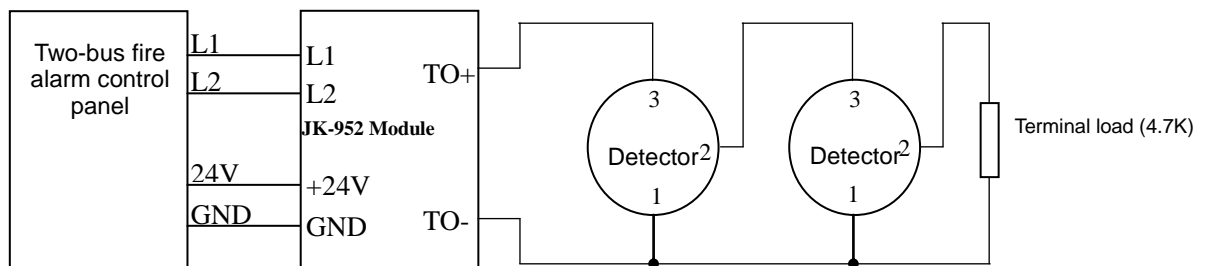
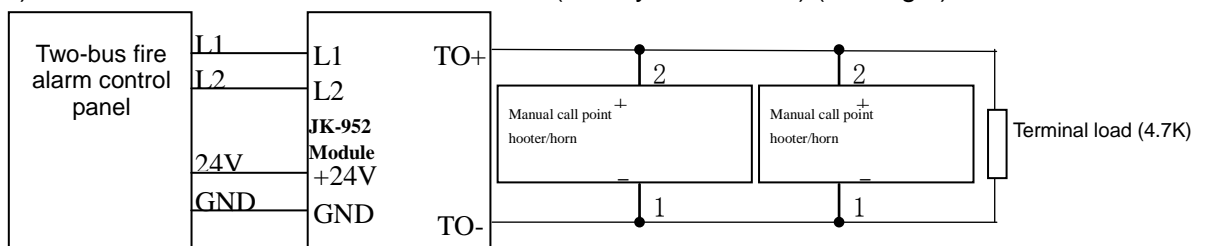

Fig.3
Fig.4
1) Connection with a detector (see Fig.3)
2) Connection with a manual alarm button (or a hydrant button) (see Fig.4)
3. Conduct correct wiring as instructed in Fig.3 or Fig.4.